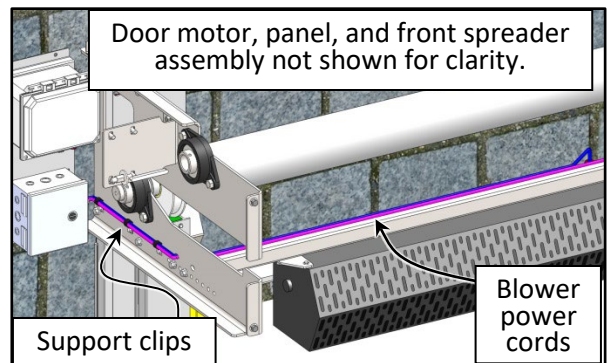

Figure 44
5. Route the Blower electrical power cord(s)/ wiring along the UNI-Strut Blower support located behind the front panel of the head assembly. Run cord(s) to the door side where the power supply junction box and control panel are located. Secure the cord(s) to the UNI-Strut with zip ties or equal. (See Figure 44)
6. Route the Blower electrical power cord(s)/ wiring to the junction box through the Head Assembly door side mounting plate as shown. Use the side clips for support as shown. (See Figure 44)